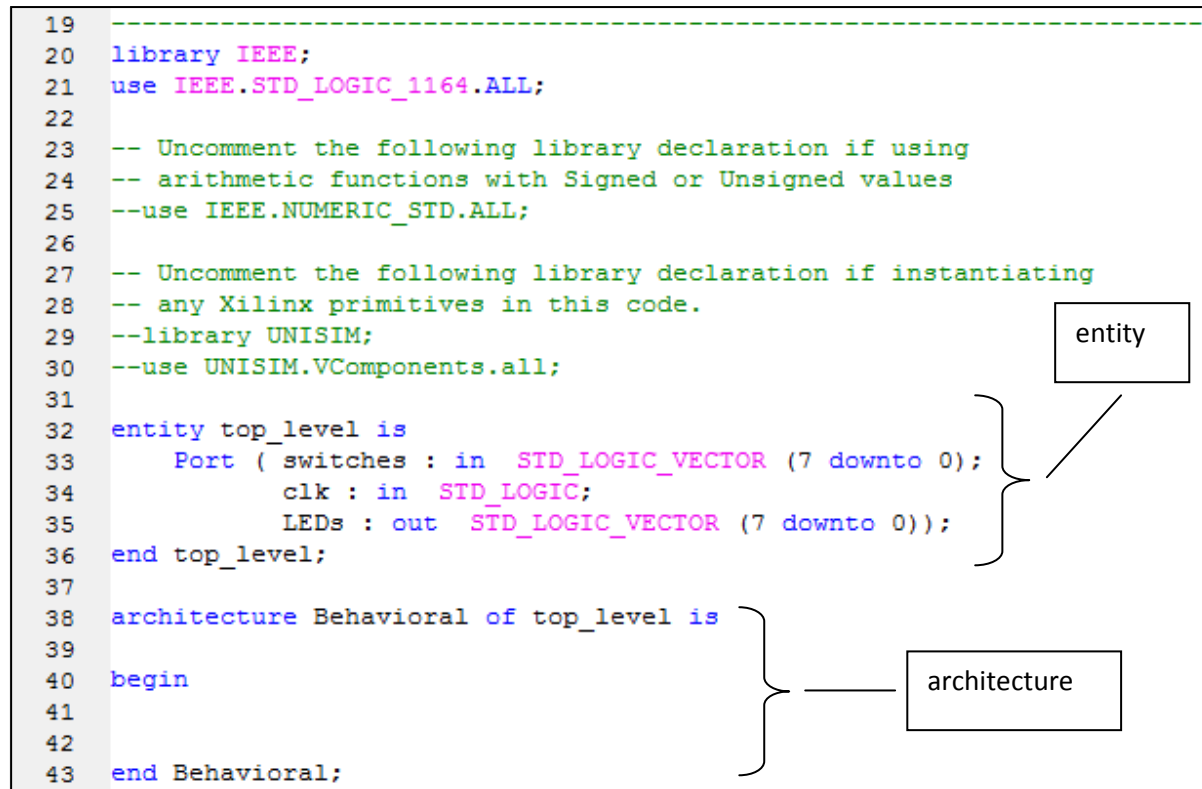

Figure 5.17: top_level.vhd, as displayed in Project Navigator, before editing.
1. Double-click on **top_level** in the Sources window to display the file, **top_level.vhd** in a tab. The code for top_level.vhd is shown in Figure 5.17.
The code in Figure 5.17 contains an **entity** and an **architecture** section. The **entity** section defines the inputs and outputs of this hardware block. In this case these have been automatically added using the New Source Wizard.
2. Replace the **architecture** block in Figure 5.17 with the code in Figure 5.18(a) and (b). This code is a trimmed down version of the **Initial Design for the Spartan-3E FPGA Starter Kit Board** (the original design shipped with the board), downloaded from [7].